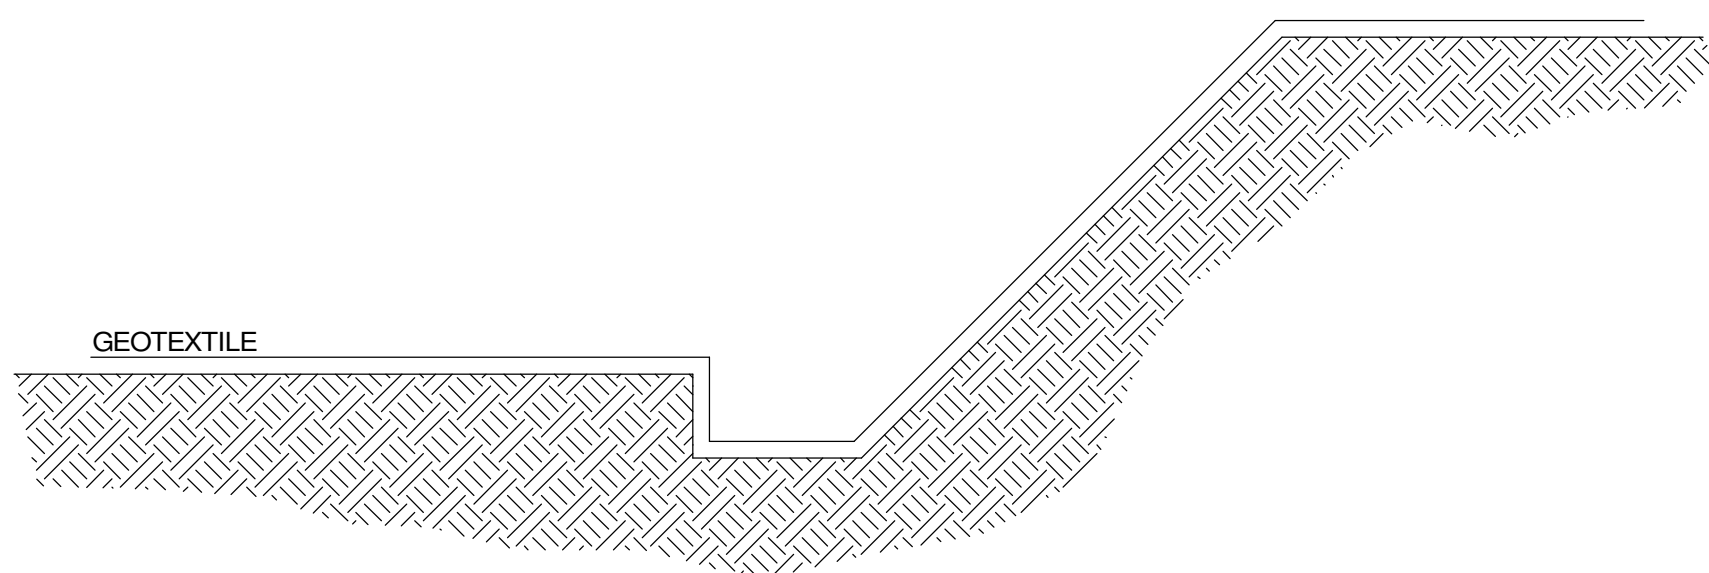

FIGURE 2
3. THE GEOTEXTILE SHOULD BE PLACED IN STRIPS ON THE PREPARED FOUNDATION (FIGURE 2) WITH A MINIMUM OVERLAP OF 300mm AT THE JOINTS AND SHOULD BE PROPERLY FASTENED TO PREVENT ANY MOVEMENT OR SLIPPING WHEN THE GABIONS ARE BEING PLACED OR PACKED.